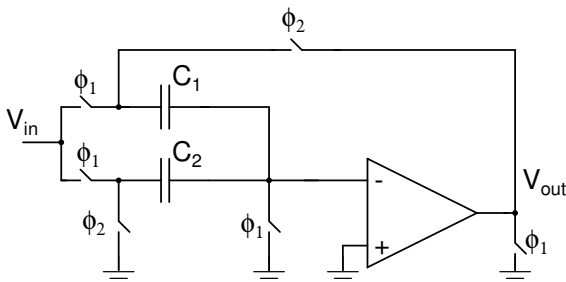

Figure 2: Circuit for Problem 3.
- Determine the gain of the switch-capacitor amplifier shown in Fig. 2. What should C_2 be (in terms of C_1) to achieve a gain of 2? Assuming an opamp transfer function of GB/s , plot GB required to achieve 0.1% output settling in a time $T_s/2$.
- Draw and simulate a fully differential version of the circuit of Fig. 2. For simulation, use the macromodel for the fully differential opamp, as shown below. Assume that the opamp is sampling at a rate of 25 MHz. Use real switches, and a real non-overlapping clock generator. Determine C_{dom} in the macromodel so that the output of the amplifier settles to better than 0.1% of the final value in half a clock cycle. Use $V_{cm} = 0.9$ V, $V_{max} = 1.6$ V and $V_{min} = 0.2$ V. The input to be amplified is a 1 MHz fully differential sine-wave with an amplitude of 1 V (p-p differential), with a common-mode voltage of 0.9 V. Plot the input and output waveforms, as well as the waveforms at the inputs of the opamp.